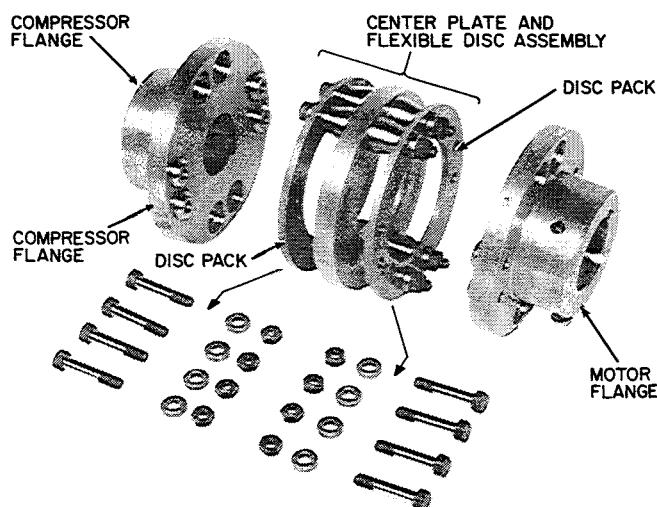

Fig. 3 — Disassembled Coupling
Step 5 — Disassemble the coupling as shown in Fig. 3. The center section comes out as a unit. *Do not disassemble the center section.*